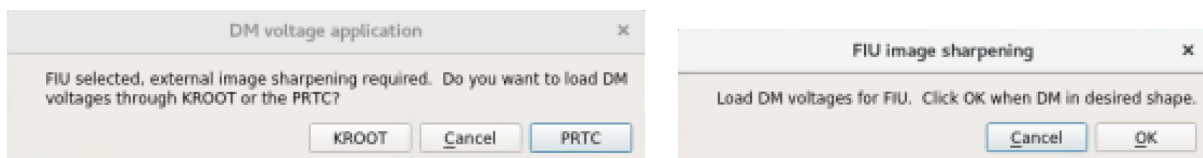
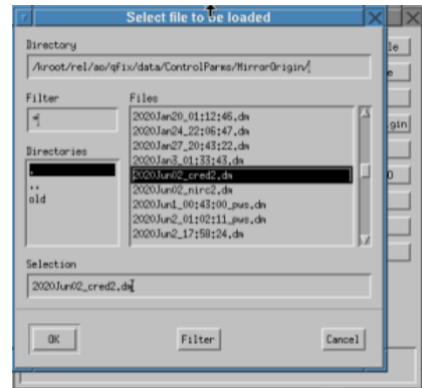

Figure 17: Popup prompts for image sharpening for the FIU.
Figure 18: Example of loading an FIU/CRED2 voltage map from KROOT
3. In step **5. IMAGE SHARPENING** select **FIU** or **CRED2**. Click on the **Image sharpening** button and a popup will appear asking the user if they want to load the DM voltages from KROOT or the PRTC (left, **FIGURE 17**). Select the appropriate option depending on where the voltages were saved.
Then select the appropriate file (see FIGURE 18). Only when the voltages are loaded should you click OK in the image sharpening popup (right, FIGURE 17).